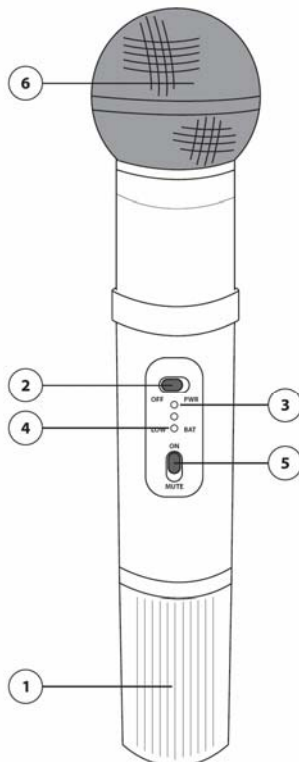
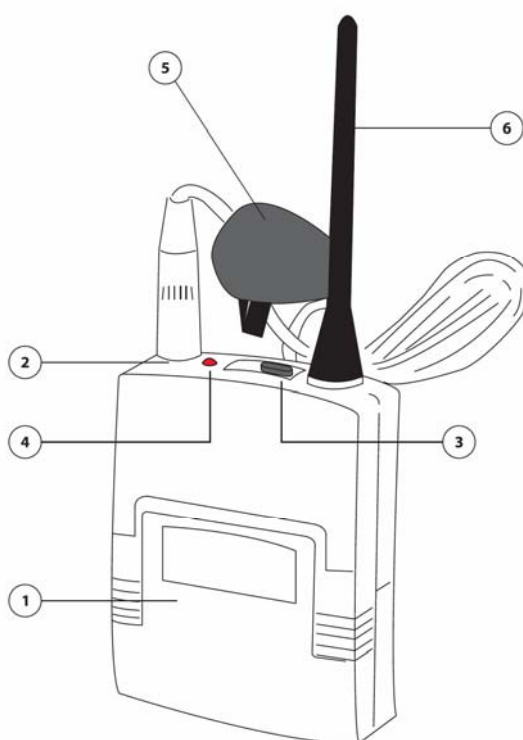
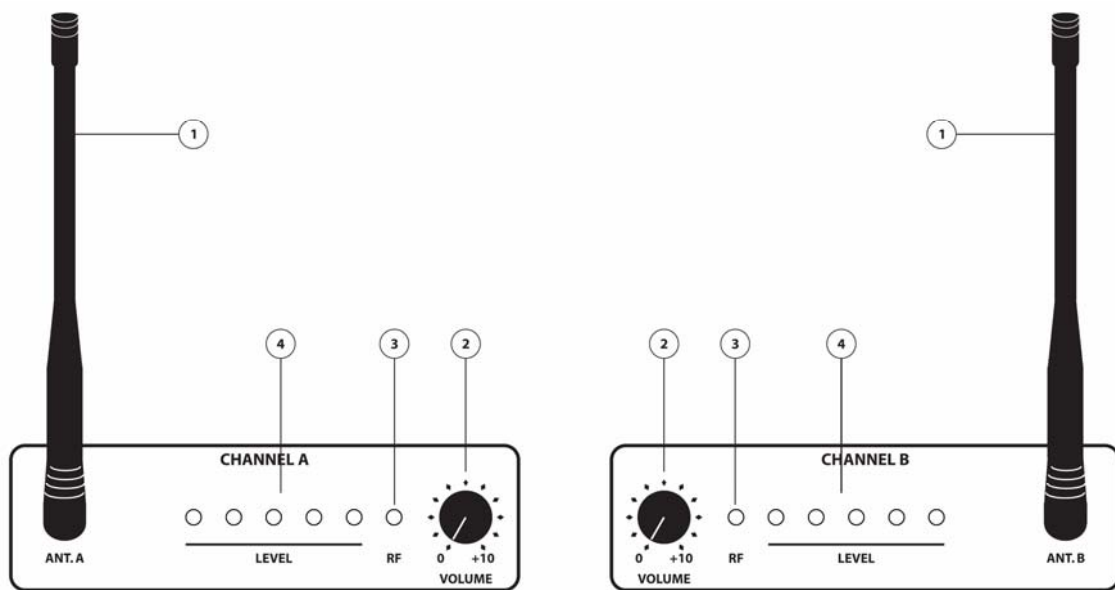

fig.3
fig.4
fig.5
Nota: The standards package is including two palmar wireless microphones (**fig.3**) whilst bodypack (**fig.4**) transmitter **are optional**.
FREE50V2 is supplied with Two receivers (**fig.5**) and with two VHF wireless transmitters (**fig.3**), For use the necessary steps are as follows:
- Install the two antenna included in the supply in vertical positions (**fig.5 ref.1**)
- Insert 9V battery correctly in the dedicated compartment (**fig.3,4 ref.1**)
- Power on the transmitters (**fig.3 ref.2 - fig.4 ref.3**) and set reproduction volume (**fig.5 ref.2**) of each transmitter. Power on the wireless microphone, the relevant RF led will light indicating that the receiver is synchronized to transmitter frequency range (**fig.5 ref.3**), While the respective v-meter (**fig.5 rif.4**) will visualize on the receiver the relevant wireless audio signal level transmitted.
Nota: On palmar microphone , commuting the selector on position PWR (**fig.3 ref.2**) the radio transmitter is powered ON and the range is transmitted. Contemporaneously Power led (**fig.3 ref.3**) is activated .Commuting subsequently the selector (**fig.3 ref.5**) on position ON the audio signal reported by the microphone is transmitted